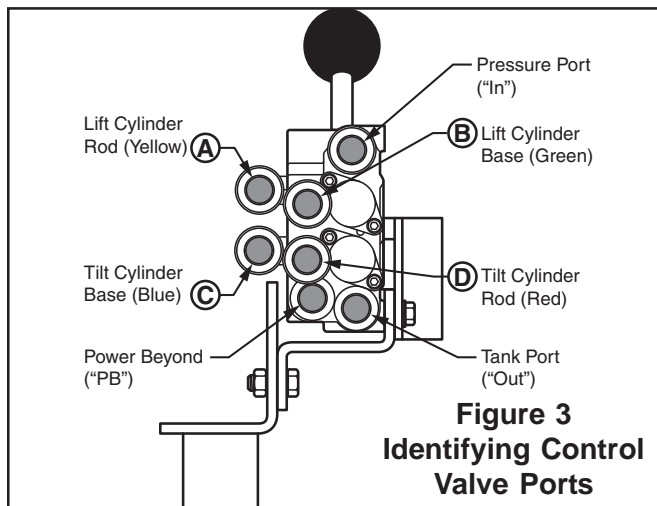

Figure 3
1. Install 9/16 x 9/16 x 90° elbow fittings (7) into working ports A and C of valve (1). Orient elbow fittings (7) parallel with valve body to point in same direction as valve ports B and D, then tighten jam nuts to lock elbows in position. Install 9/16 x 9/16 straight fittings (8) into working ports B and D of valve (1). Install 9/16 x 3/8 straight fittings (9) into fittings (7 & 8) and install female quick couplers (10) and large identification bands (11) onto straight fittings (9).
NOTE: Be sure to attach color-coded identification bands (11) in sequence shown in Figure 3.
PLUMBING CONTROL VALVE TO TRACTOR HYDRAULICS (Figures 3, 4 & 5)
PLUMBING LOADER TO CONTROL VALVE (Figures 3 & 5)